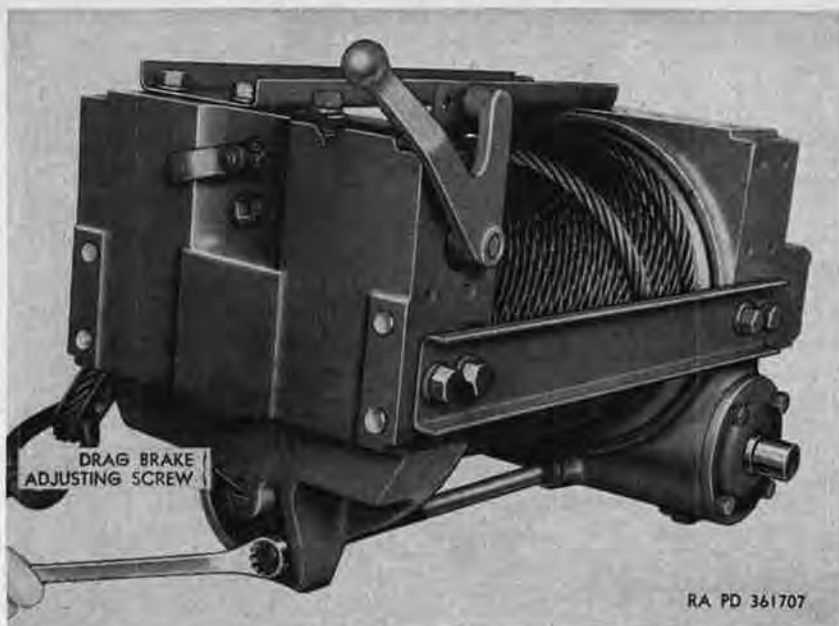

Figure 273. Left rear view of front winch removed from vehicle.
- (1) *Drag brake test.* To check drag brake adjustment, disengage winch drum clutch (par. 51b(2)) and pull on winch cable. Stop pulling cable and observe whether winch drum stops turning as soon as pulling is stopped. If winch drum continues to turn without pull on cable, adjust drag brake (b below).
- (2) *Automatic brake test.* To check automatic brake adjustment, park truck at top of a steep grade with truck facing downhill. Attach winch cable to another truck at bottom of hill and, using front winch only (par. 51c), start pulling other truck up hill. When truck being pulled is part way up incline, shift front winch control lever into neutral (par. 51b(1)). If truck being pulled rolls backward, adjust automatic brake (c below).
b. Drag Brake Adjustment. To increase braking action of drag brake, turn adjusting screw (fig. 273) clockwise. Test adjustment as in a(1) above.
- (1) Attach hoisting equipment to winch (fig. 273) and hoist winch high enough to clear front bumper. Lower winch between frame side rail extensions and align winch mounting holes.